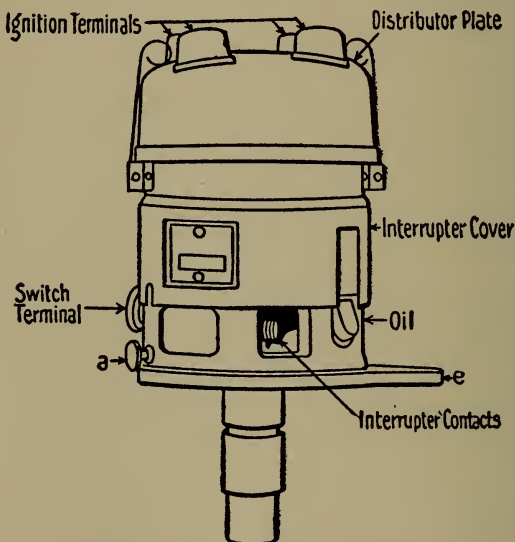
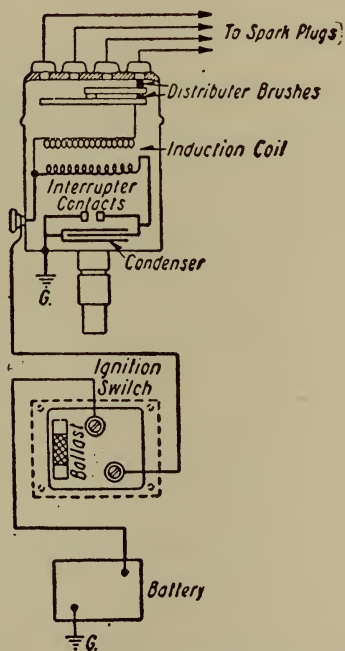

Fig. 292.—Automobile ignition unit.
Fig. 293.—Ignition system for automobile.
ignition, and a storage battery to serve the two. Even the common forms of ignition device are far from being simple. One of these is illustrated in Fig. 292. From the diagram of this (Fig. 293) it will be seen that the main parts are: (1) Induction-coil; (2) Condenser;